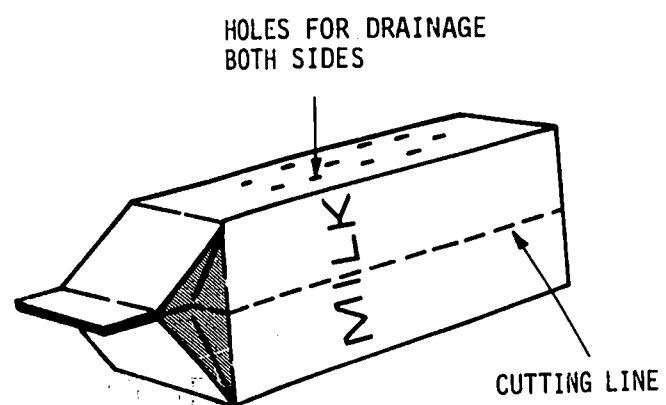

Fig. 9A-1. How to Make Pans by Cutting Milk Cartons
- With a spoon, "excavate" (dig) a trench through center of each soil sample. See Fig. 9A-2.